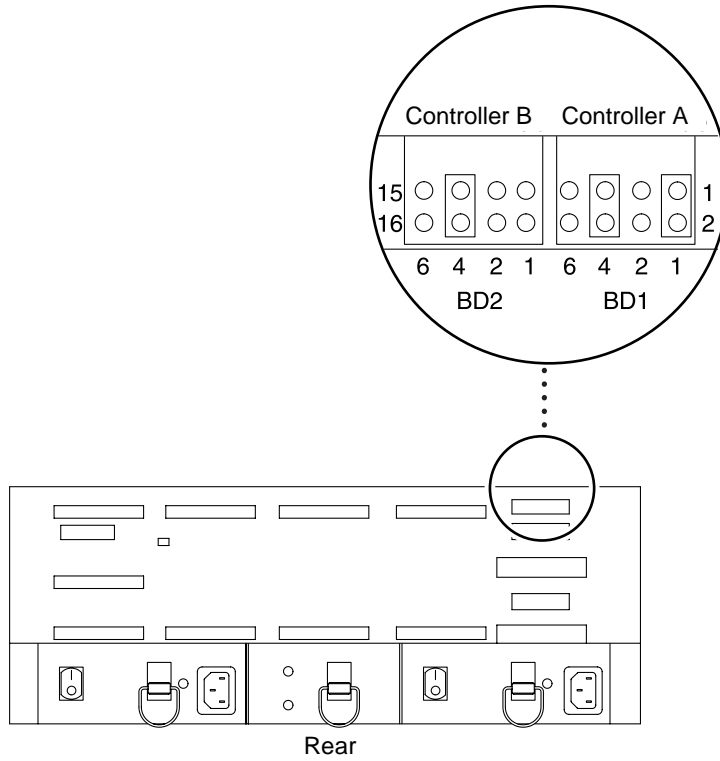
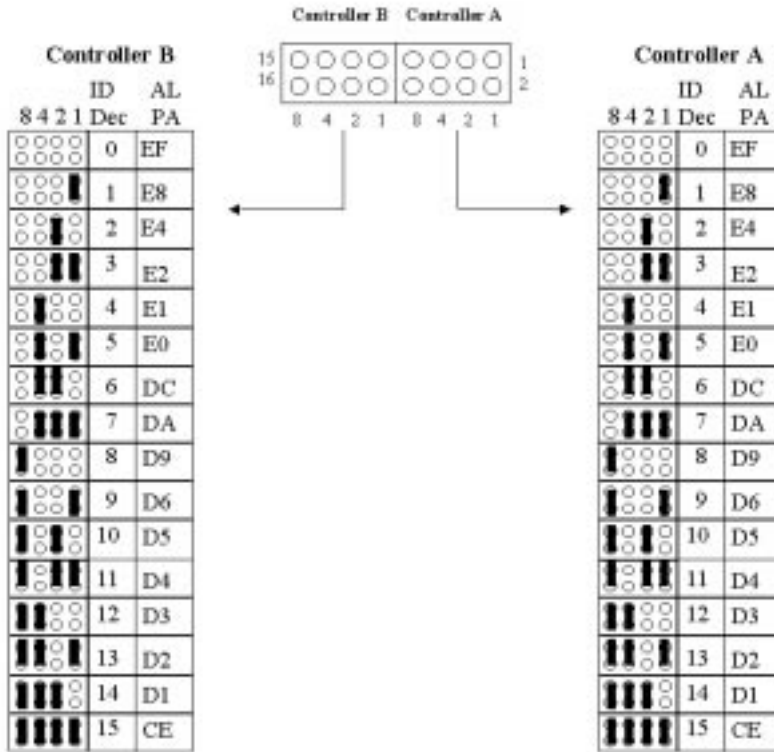

FIGURE 2-5 Controller Module SCSI ID Settings
FIGURE 2-6 Controller Module FC-AL ID Settings
1. **Locate the 16 pins on the rear of the SCSI controller module (FIGURE 2-5) or the FC-AL controller module (FIGURE 2-6).**
2. **Wearing the antistatic wrist strap, install jumpers on the pins as shown in FIGURE 2-5 and in FIGURE 2-6.**